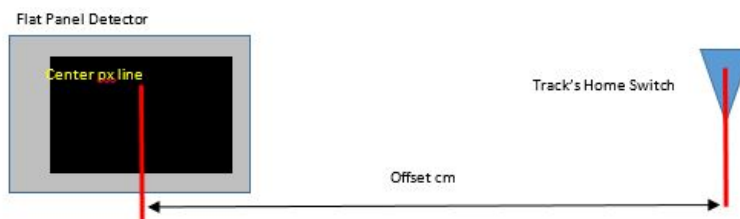

Figure 13- Position of detector center from the track's home switch
- a. The instrument X-offset is measured from the home switch to the center pixel of the detector (Figure 13).